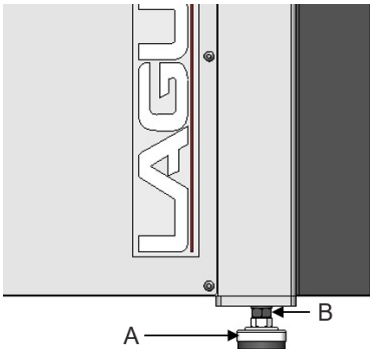

FIGURE 3: LEVELING FEET
1. Level machine using the four leveling feet on each of the four corners. Lock leveling feet into position with the nut on the leveling foot stud (Fig. 3).